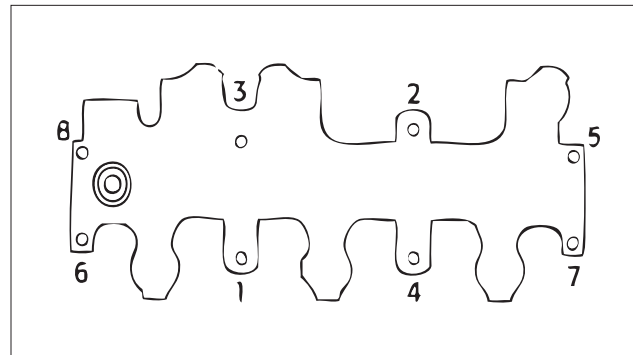

Fig 2
1. Install two new o-rings (27) on oil supply tube; insert the tube into the front housing.
**Model 411:** Install the capscrews in the (8) locations and hand tighten following the sequence in Fig. 2 below. Complete the sequence by tightening the capscrews to 60 lb·ft. (81 N·m). Repeat on the other housing.